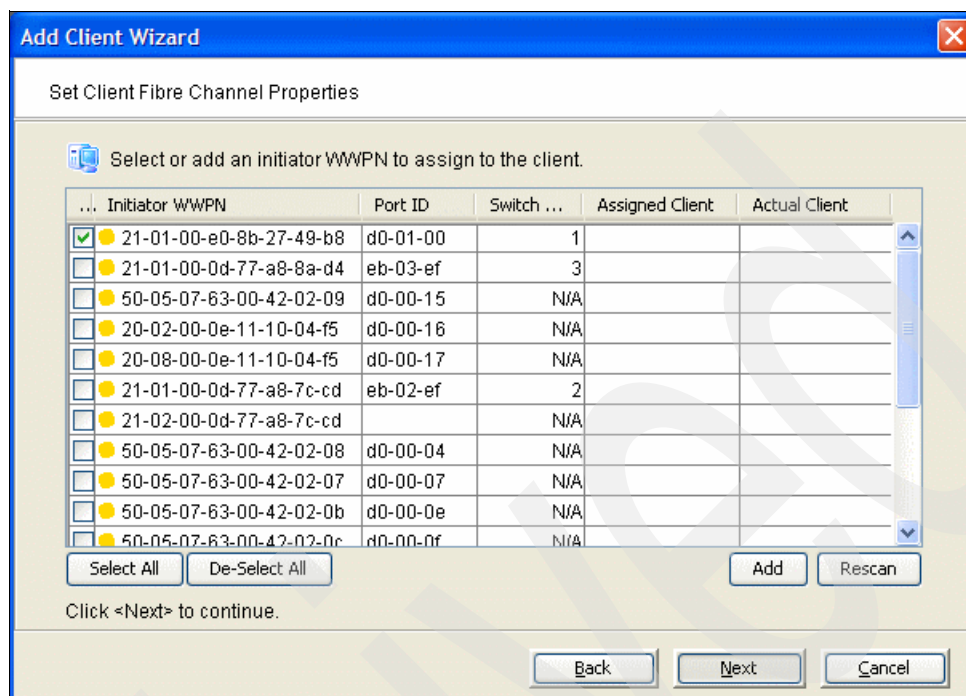

Figure 6-55 Adding SAN client: Set Client Fibre Channel Properties
- Using information from the Fibre Channel Backup Host Worksheet locate and select the WWPN or WWPNs for the SAN client (Figure 6-55). Click **Next**.